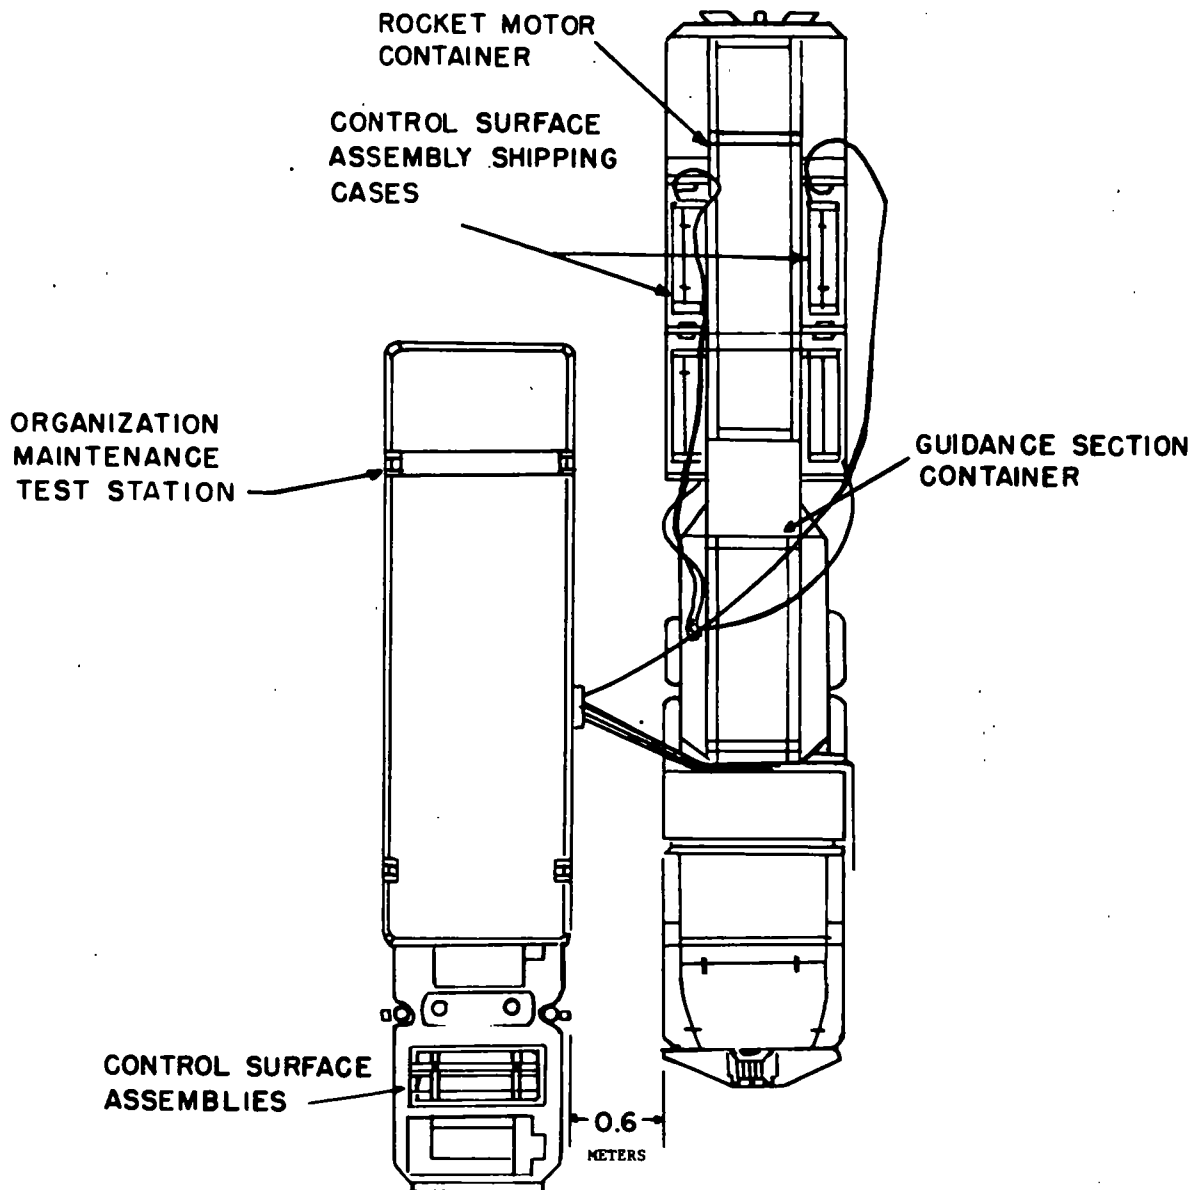

Figure 25. Transporter in position at organizational maintenance test station.
c. Refer to figure 25 and 26 for emplacing the OMTS.
a. Position the MGTT to the left rear of the OMTS van (fig. 25) and attach the plugs and cables to the missile containers as shown in figure 27 and described in TM 9-4935-303-12.